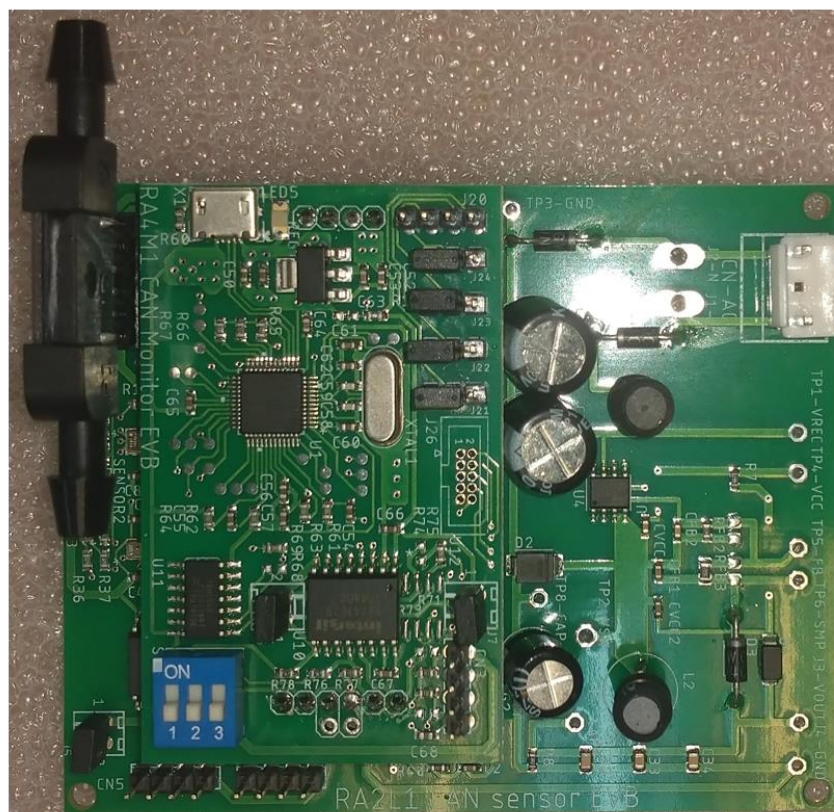

Figure 2-4 RA2L1 CAN Sensor EVB and RA4M1 Monitor EVB Diagram
2.4 Figure 2-4 is the diagram of RA2L1 CAN Sensor EVB and RA4M1 Monitor EVB.